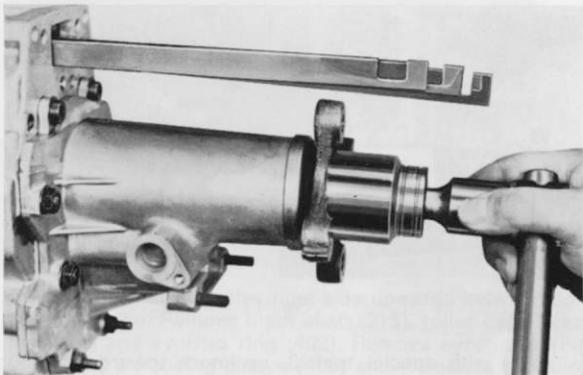

Fig. 7
- 1. Push back the safety tab on the nut (430) and loosen nut (Fig. 7). For this, 2 gears must be engaged. Pull the output flange (429) from the mainshaft.